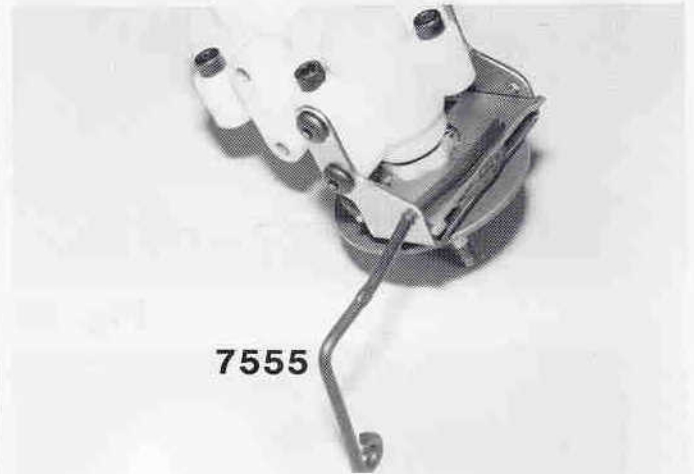

Fig. 95
□ **Figs. 95, 96 & 97** From bag 7-13 remove the #7555 disk brake cam and the #7556 brake cam clip. **WARNING!** There is another brake cam clip in bag 7-15. **DO NOT** get the two mixed up. Check the end of the disk brake cam for burrs and remove if found. This will prevent breakage of the brake cam clip during installation. Push the disk brake cam through the hole on the top side of the bracket and then through the hole in the lower end of the bracket. Round the bottom edge of the brake cam.